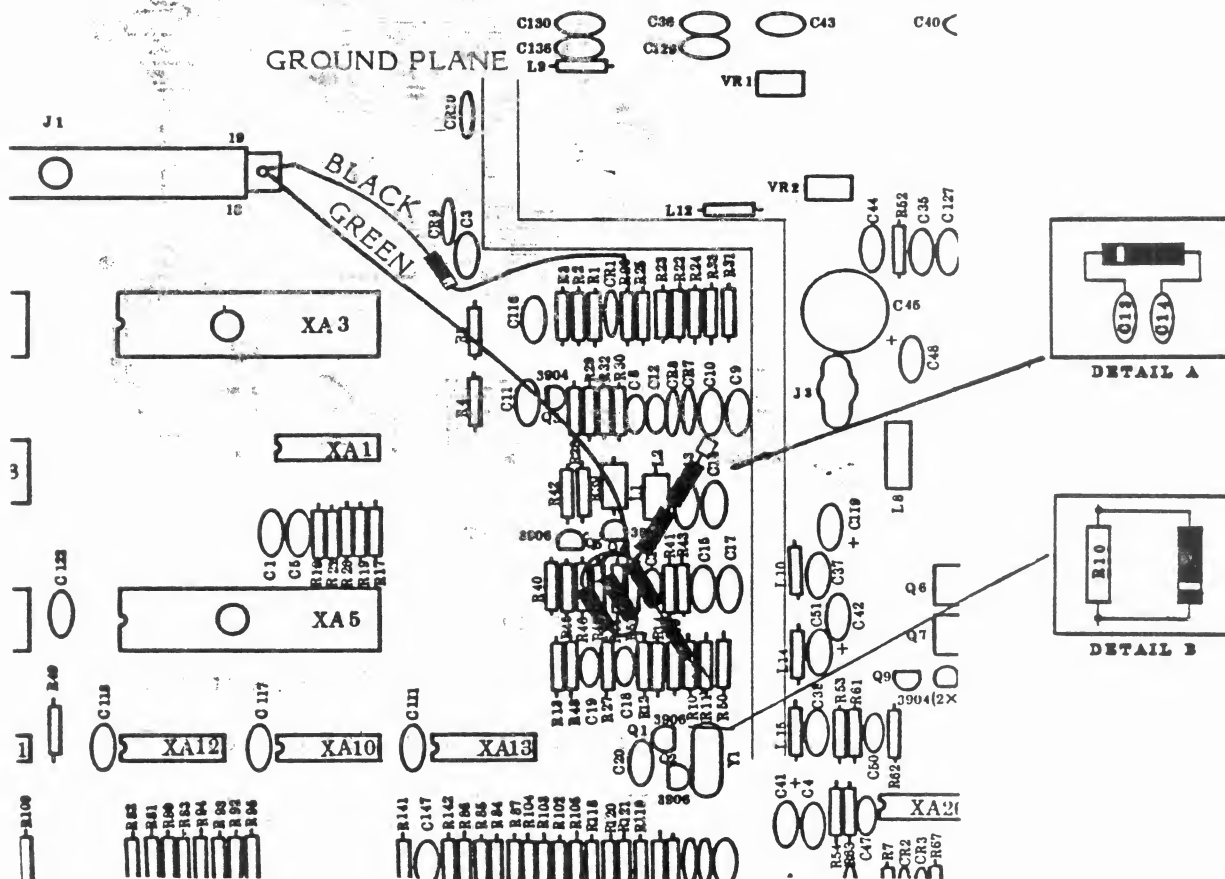

Figure 3. Retrofit Diagram
6. Using Figure 3 as a reference perform the following: